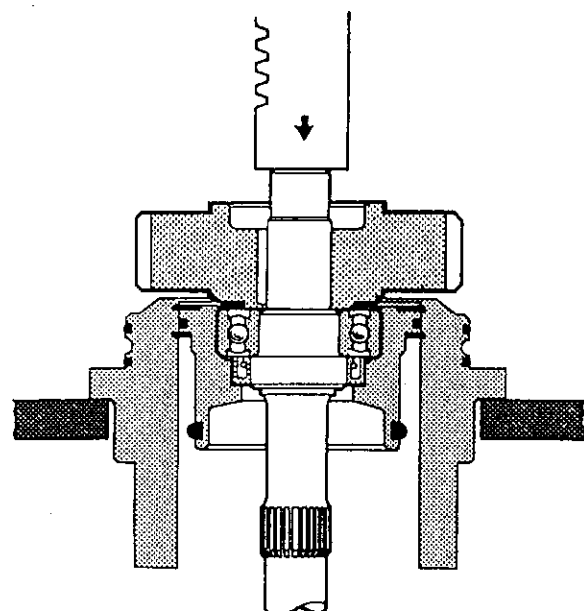

Figure 5.21
10. Install outer retaining ring (12) in drive housing.
11. Place drive housing in arbor and press drive shaft (28), drive shaft bearing (10) and gear assembly (9) into bearing retainer (14). See Figure 5.21.